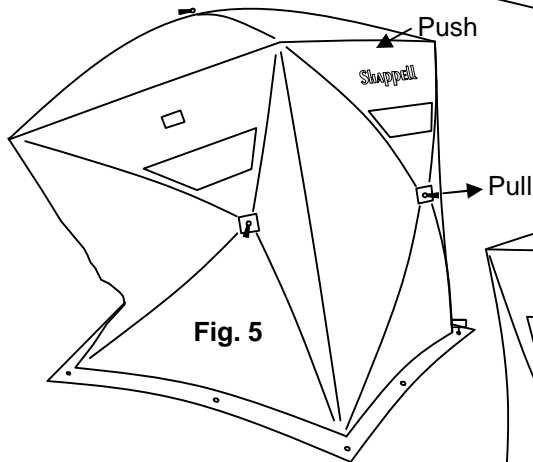

Fig. 5
5) Pull out remaining Side Hubs. (Fig. 5)